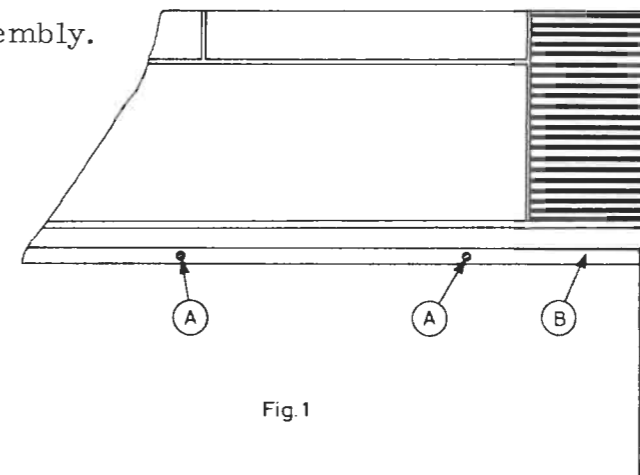

Fig. 1
3. To remove the speaker grille, remove the screw marked B (see Fig. 1).